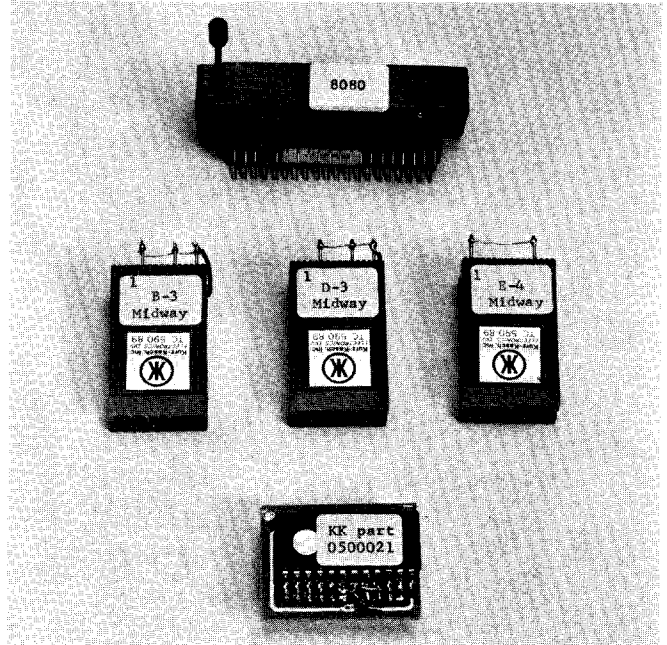

FIGURE 10
2. NOP test fixture. (see Figure 10)